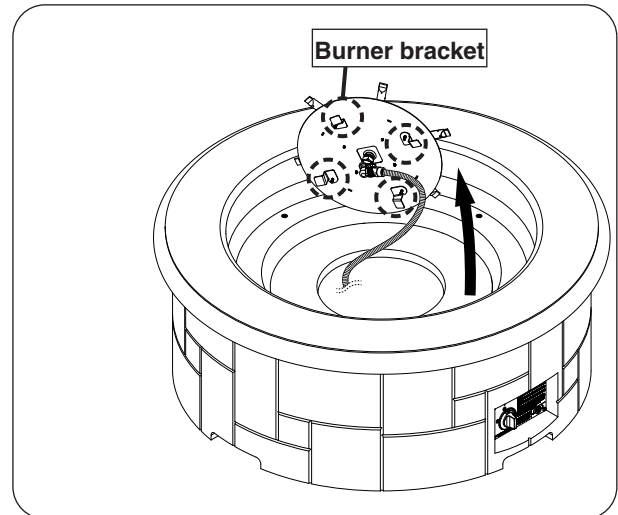

Fig. 32-2 Remove burner assembly
2. Use a  $\frac{5}{16}$ " nut driver to partially unfasten the four screws found on the burner assembly. Then carefully remove the burner and set it off to the side. See Fig. 32-2.